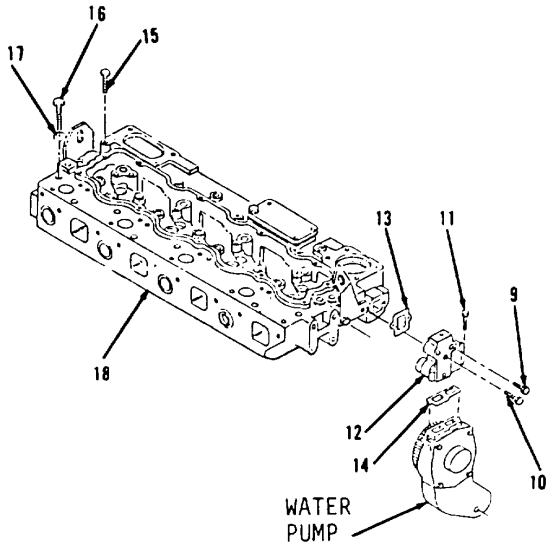
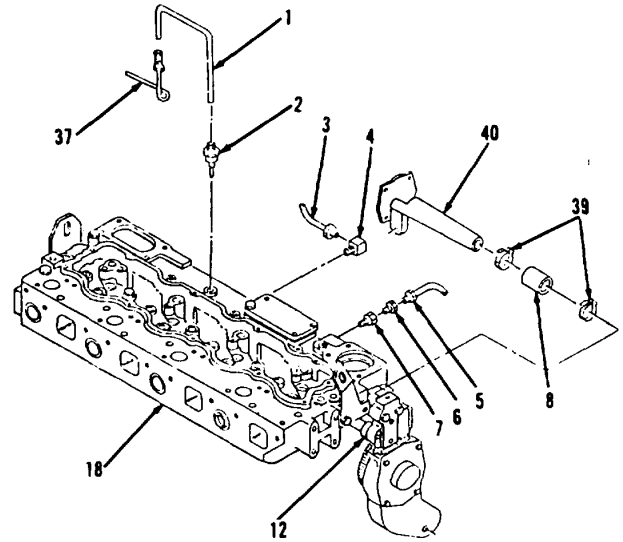

Figure 3-36.
Figure 3-35.
- 5. Install 14 washers (17), bolts (16) and five bolts (15) loosely into cylinder head (18, Figure 3-36). Lubricate five bolts (15) threads with clean oil.
13. Position new gaskets (14 and 13) and elbow (12, Figure 3-36) to left front of engine.
14. Install two bolts (11) and bolts (10 and 9).
15. Position hose (8) and two clamps (39) to left side of engine. Slide up pipe (40, Figure 3-35) onto neck of elbow (12).
16. Tighten two clamps (39).
17. Install bushing (7), connector (6) and tube assembly (5).
18. Install elbow (4) and connect hose assembly (3).
19. Install atomizer (2) to top left of cylinder head (18).
20. Install tube (1) to tube assembly (37) and atomizer (2).